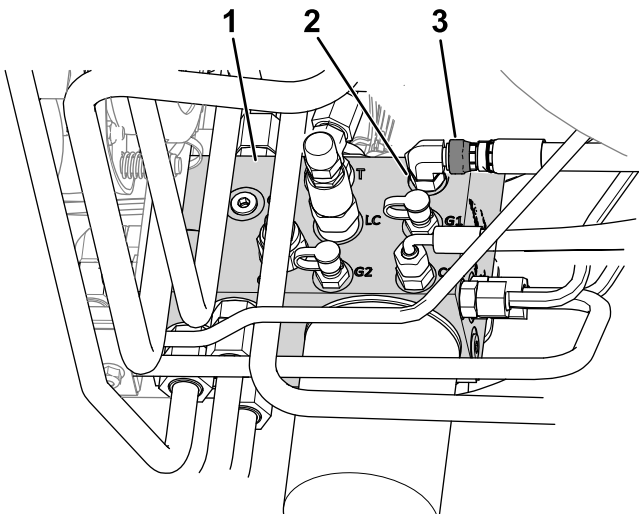

Figure 10
B. Loosen the hose swivel nut connected to port C1 of the hydraulic manifold (Figure 10).